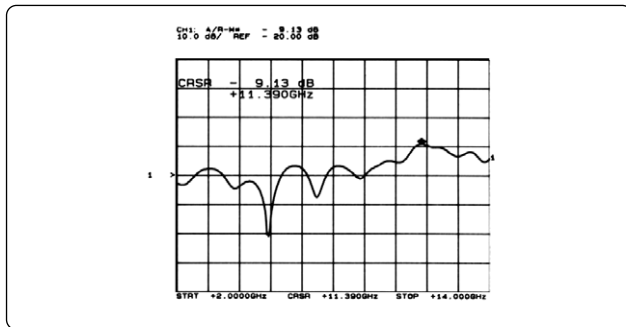

Figure 10. Example input return loss plot in dB.
8. Press **[SCALE]** and select **[AUTOSCALE]**. Press **[CURSOR]** and use the knob to read the return loss in dB at any point along the trace. Figure 10 shows an example.